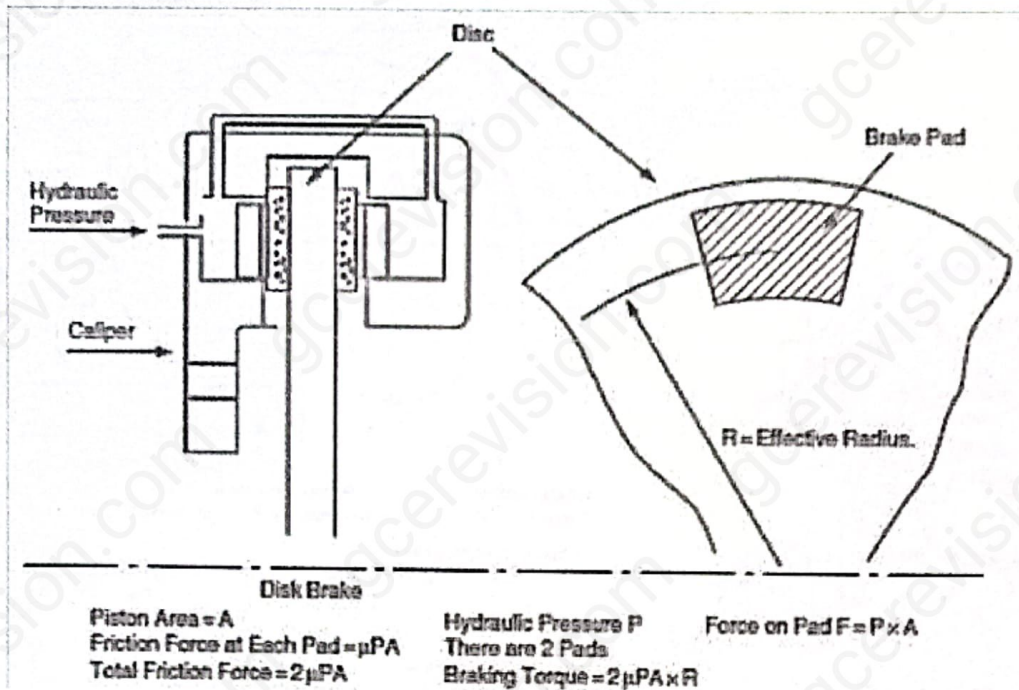

Figure 9
- b. In a disc of the type shown in figure 9 the hydraulic pistons are 50mm in diameter and the effective radius of the brakes disc is 150mm. Calculate the braking torque when the hydraulic pressure is 20bar and the coefficient of friction is 0.4. (3marks)